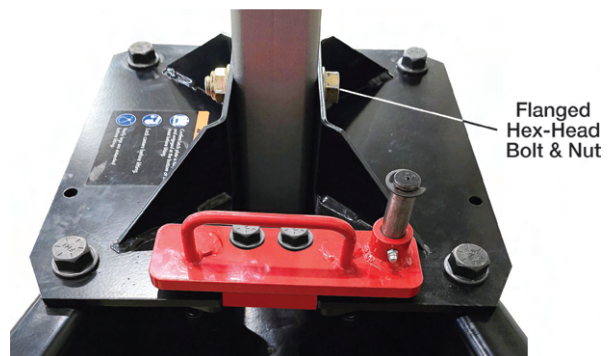

Figure 6-8: Attaching Square Tube to Base
10. Attach square tube to base using supplied 3/4-10 x 4.5" flanged hex-head bolt and 3/4-10 flanged hex nut (see Figure 6-8). Insert the flanged hex-head bolt through the square tube flanges and the square tube. Secure with flanged hex nut.